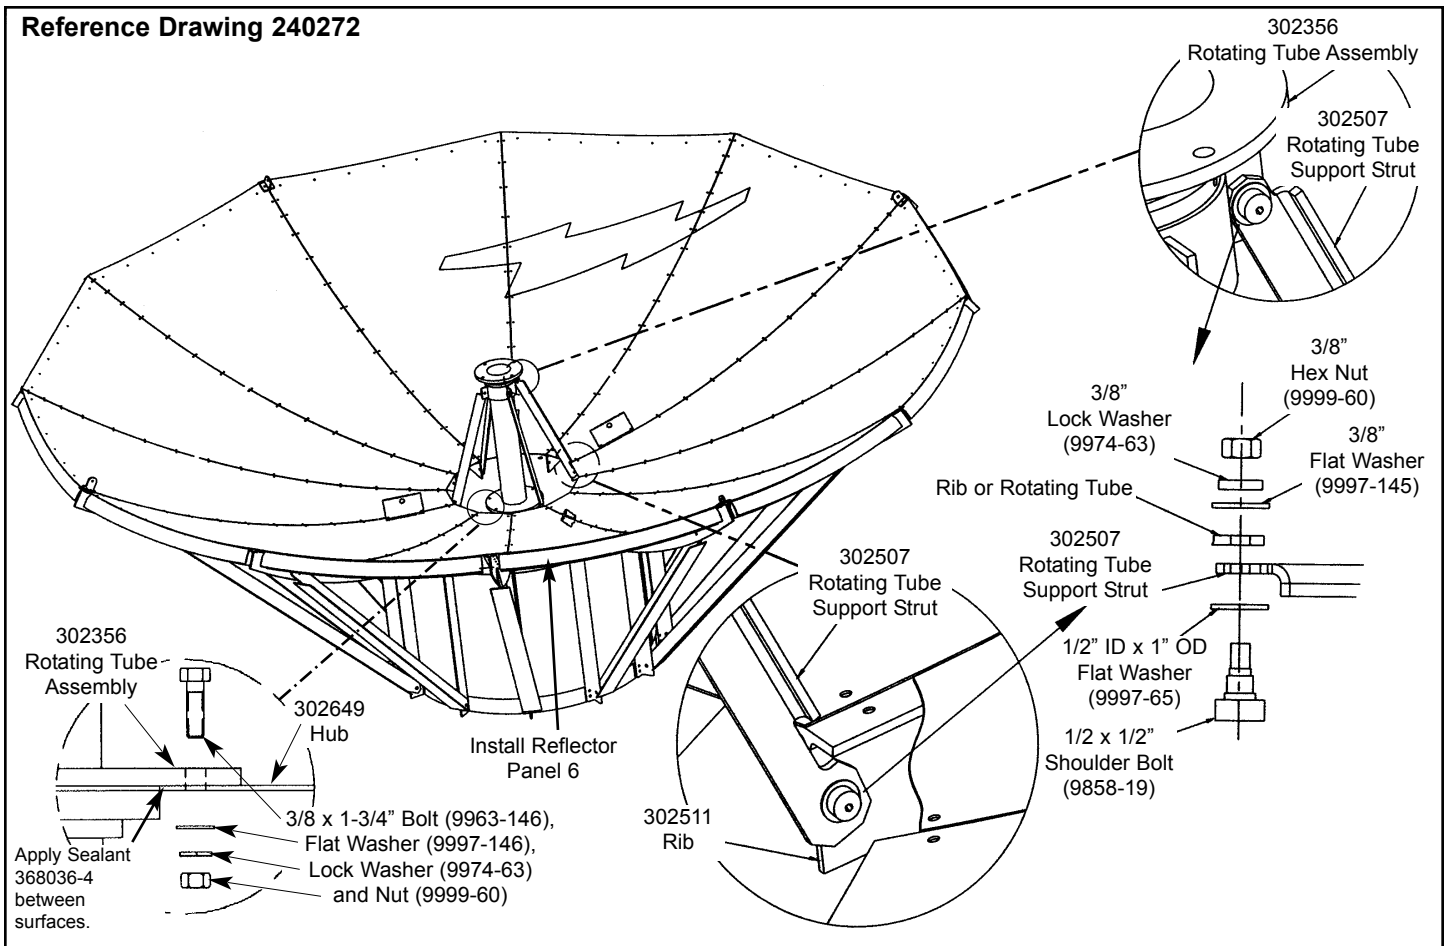
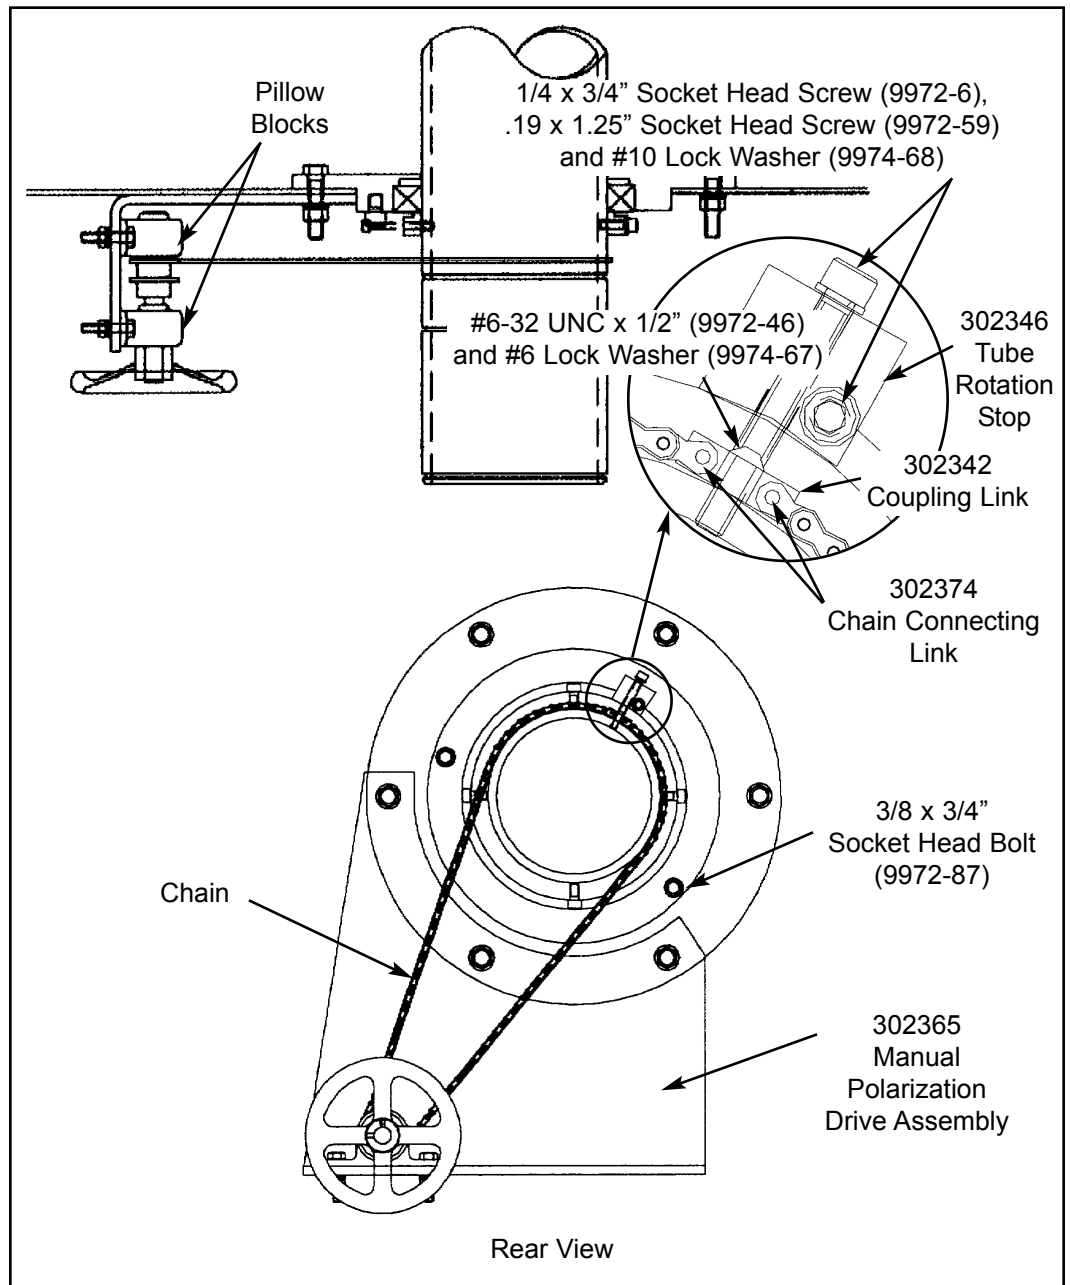

Figure 10
Figure 11
Install 302356 Rotating Tube Assembly as shown in Figure 10. **Note:** Rotating Tube must be attached to Hub prior to attaching support struts to Rotating Tube. Ensure 302507 Support Struts attach to ribs 2, 5, 8 and 11 as shown. **Note:** Ensure all support struts are attached to same side of reflector rib and rotating tube mounting tab. Fully tighten mounting hardware except for 3 bolts that attach polarization drive as shown in Figure 11.
- Step 1** Attach the Polarization Drive Assembly as shown in Figure 11. Measure and cut chain to proper length.